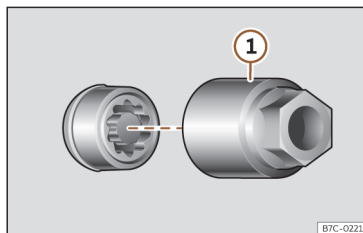

Fig. 204 Anti-theft wheel bolt with cap and adapter.
- Insert the special adapter >>> **Fig. 204 1** (vehicle tools >>> page 301) onto the anti-theft wheel bolt and push it on as far as it will go.